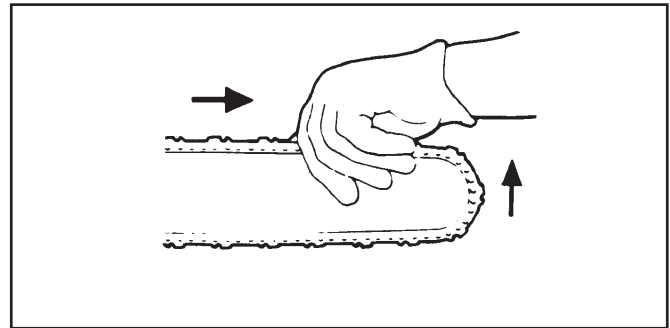

Figure 8. Pulling the Chain
3. Using the saw bar adjustment screw (Item 65, Parts Illustration), tighten the chain until you are still able to rotate it one full revolution by hand (Figure 8).